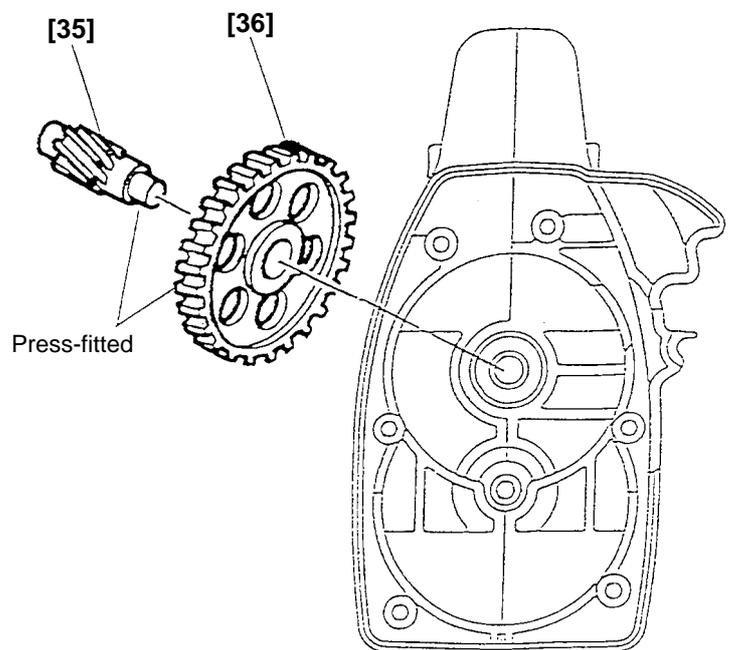

Fig. 21
Remove the four Tapping Screws (W/Flange) D5 x 25 (Black) [31] and the two Tapping Screws D5 x 35 [55]. Hold Bracket (B) [56] and Bracket (A) [54] and remove them being careful not to move Bracket (A) [54]. Then the Second Gear [36] and the Third Pinion [35] can be removed (Fig. 21).